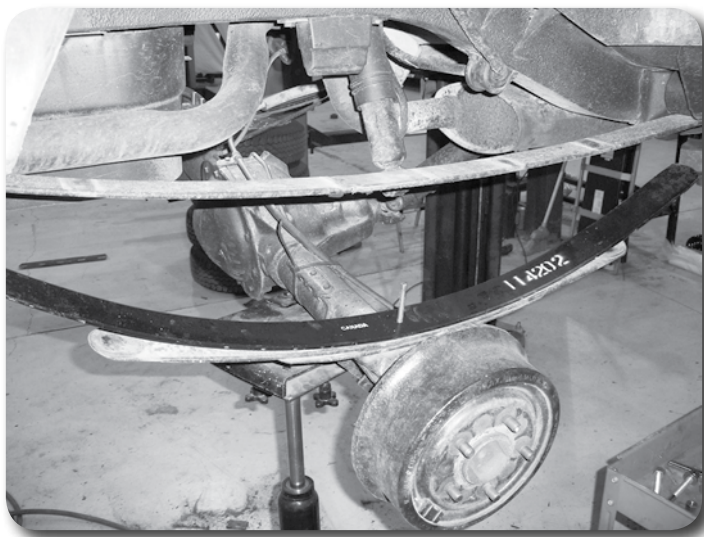

Figure 5
9. Place the provided new leaf in between the 2nd and 3rd leaf in the factory leaf pack. The leaf lengths get shorter as they go from the top leaf in a pyramid shape (Figure 5). Using the C-clamps on each side of the center pin hole, compress the leafs together while aligning the new center pin through all of leaf center pin holes (from the bottom up). With the pack completely compressed together with the clamps, fasten the center pin with the provided nut. Torque nut to 20 ft-lbs. Cut off any access center pin. Do not use the center pin to compress the pack together.